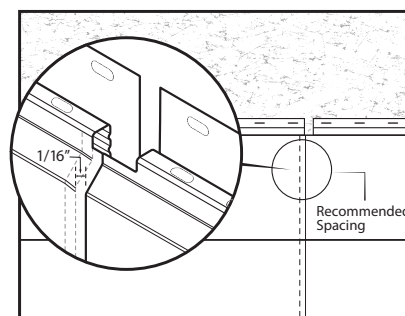

Figure 5.2.1
- It is recommended to leave 1/16" between the stamped seam and non-stamped end. (Figure 5.2.1)